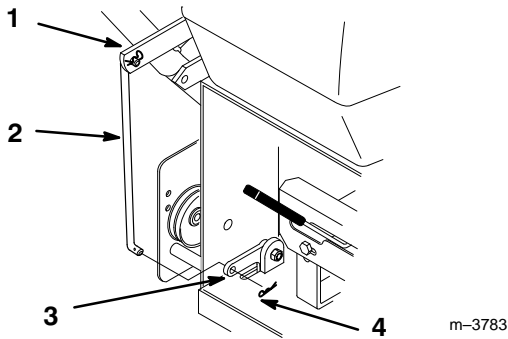

**Figure 7**
1. Place throttle control lever in FAST detent position.(Fig. 7).
3. Hook wire Z-bend into hole of speed control lever (Fig. 7).
4. Loosen cable clamp screw allowing cable installation, but do not tighten (Fig. 7).